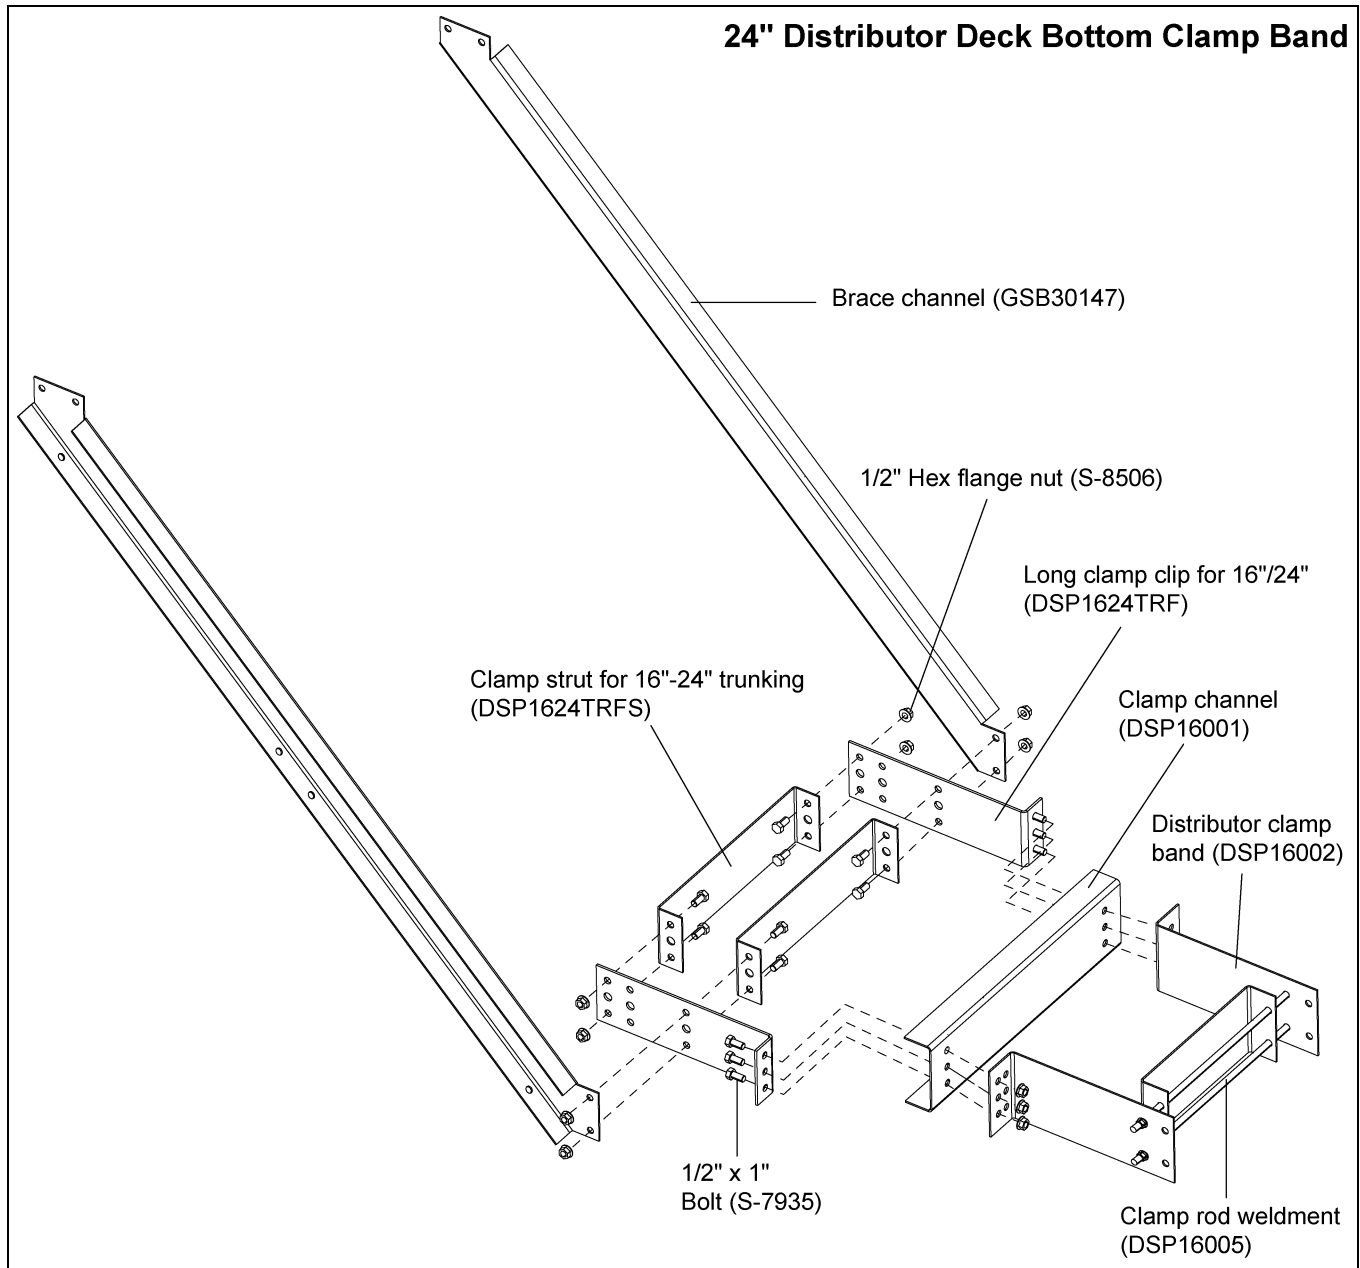

Figure 10D
1. Slide rods of clamp rod weldment into inside set of holes of clamp bands for 16" assembly. Fasten together using four (4) 1/2" hex flange nuts.
2. Orient the brace channels so the bends face outwards and line up the brace channel holes with the holes located near the middle of the 16"-24" long clamp clips. Line up the clamp strut with the same set of holes as the brace channel and 16"-24" long clamp clip. Fasten all five (5) together using four (4) 1/2" x 1" bolt and nuts. Attach remaining clamp strut to the end of the 16"-24" clamp clip. Tighten only finger tight. *(See Figure 10D.)*
3. Assemble the clamp rod weldment, clamp channel and brace channel assembly at same time around the trunking. Place clamp rod weldment assembly around the trunking leg and line up holes on 16"-24" long clips and clamp channel with the **outside set of holes** on the clamp rod weldment. Fasten all three (3) together using six (6) 1/2" x 1" bolts and nuts.